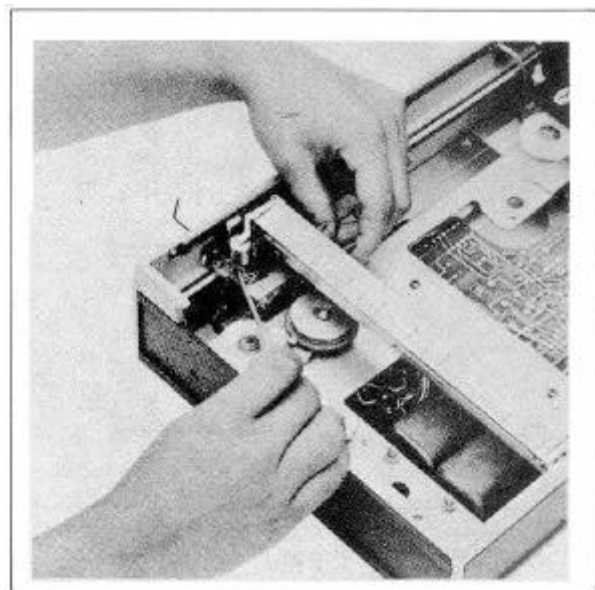

FIGURE 5-17. Y-AXIS BACKLASH ADJUSTMENT (GEAR LOCKING SCREW)
- e. Loosen gear locking screw in upper left corner of pen motor block (Figure 5-17).